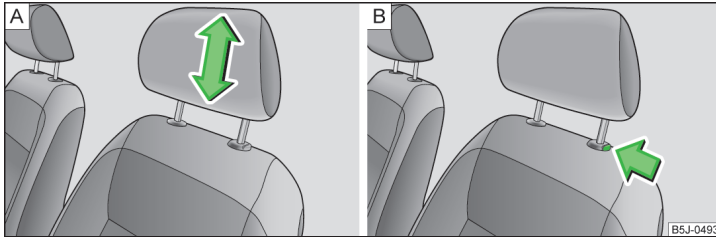

Fig. 62 Head restraint: adjusting/removing
- ▶ Grasp the side of the head restraint with both hands and push it upwards as required » Fig. 62 - [A].
- ▶ To move the head restraint downwards, press and hold the safety button » Fig. 62 - [B] with one hand and push the head restraint down with the other hand.
- ▶ Press the locking button in the direction of the arrow » Fig. 62 - [B] and pull the head restraint out.